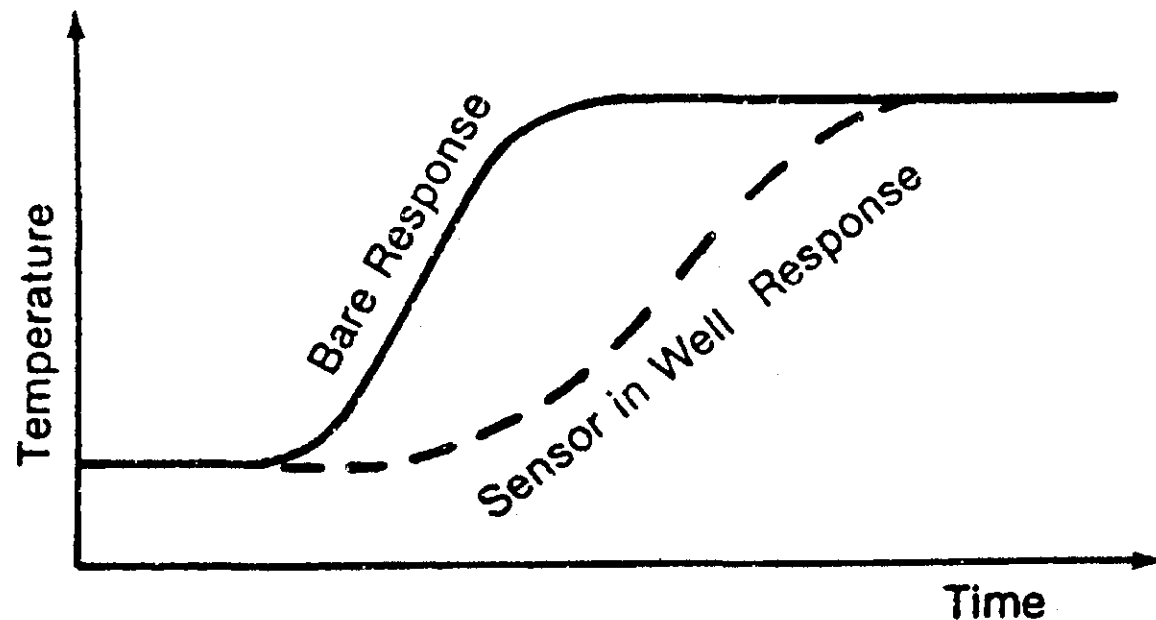

Figure 10: Response Curves of Bare and Thermal Well Installation.
- An example of the temperature response for bare and thermal well installed sensors is shown in Figure 10.